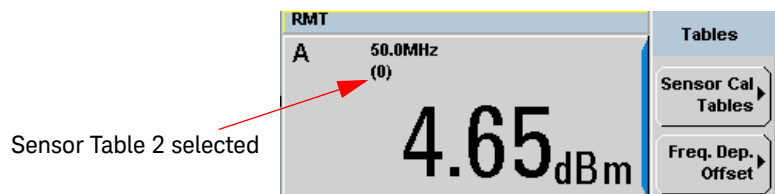

Figure 8-9 Frequency dependent offset indicator
- 4 Press **Done** again to display the measurement screen. **Figure 8-9** shows which offset table is selected.